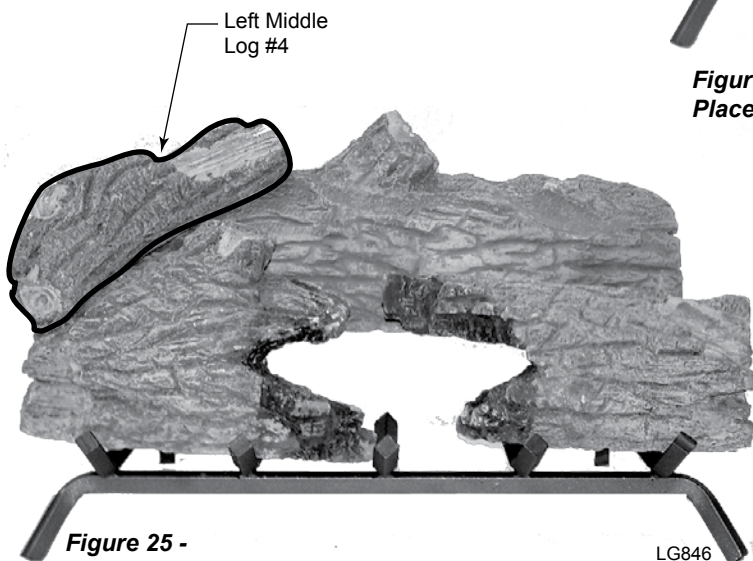

**Figure 23 -
2. Center rear log #1 on grate bars and flush with rear of the grate. *Figure 23*